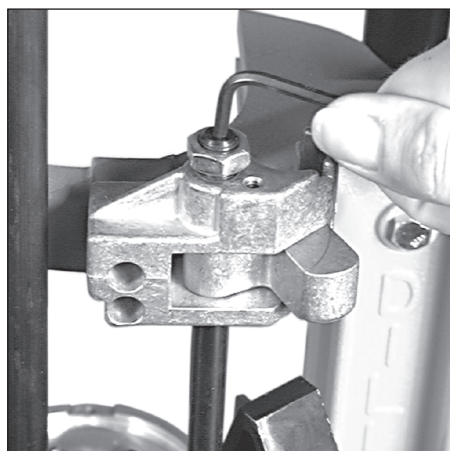
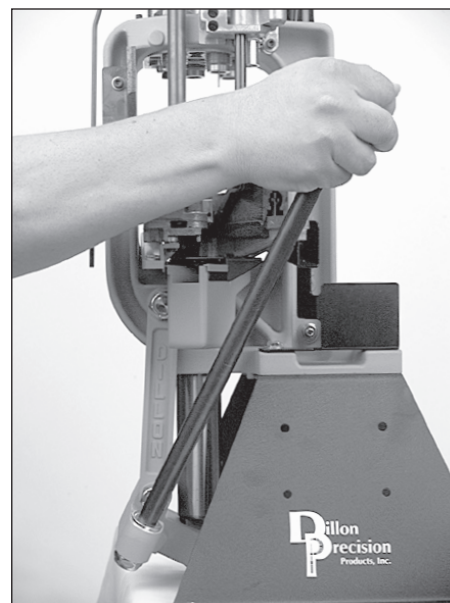
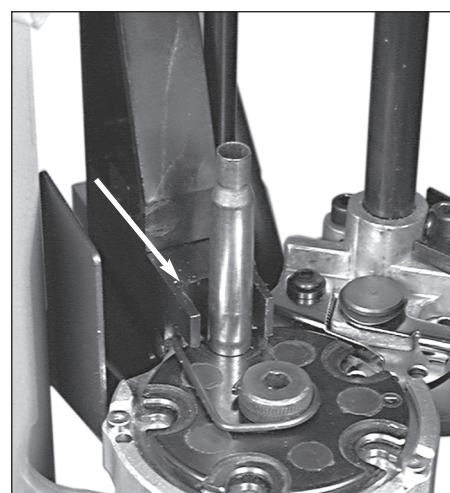

FIG 190
FIG 191
FIG 192
3. Using a 1/8" Allen wrench, turn the camming pin clockwise FIG 190 four or five turns – or enough so that when you push the handle to the full aft stop FIG 191, the case insert slide (see arrow FIG 192) does not push the case fully into Station 1 FIG 192 – this will give you a place to start the adjustment.
4. With the handle pushed against its full aft stop, start backing the camming pin out by turning it counter clockwise FIG 190. Continue to back the camming out until the case stops its forward movement into the shellplate. Once the case becomes fully inserted into Station 1, stop turning the camming pin. When a case is properly inserted, it should not be jammed all the way into the shellplate pocket. There should be a little play so the case is relaxed and won't tilt. To understand this further, notice how the brass locator buttons work. They don't put pressure on